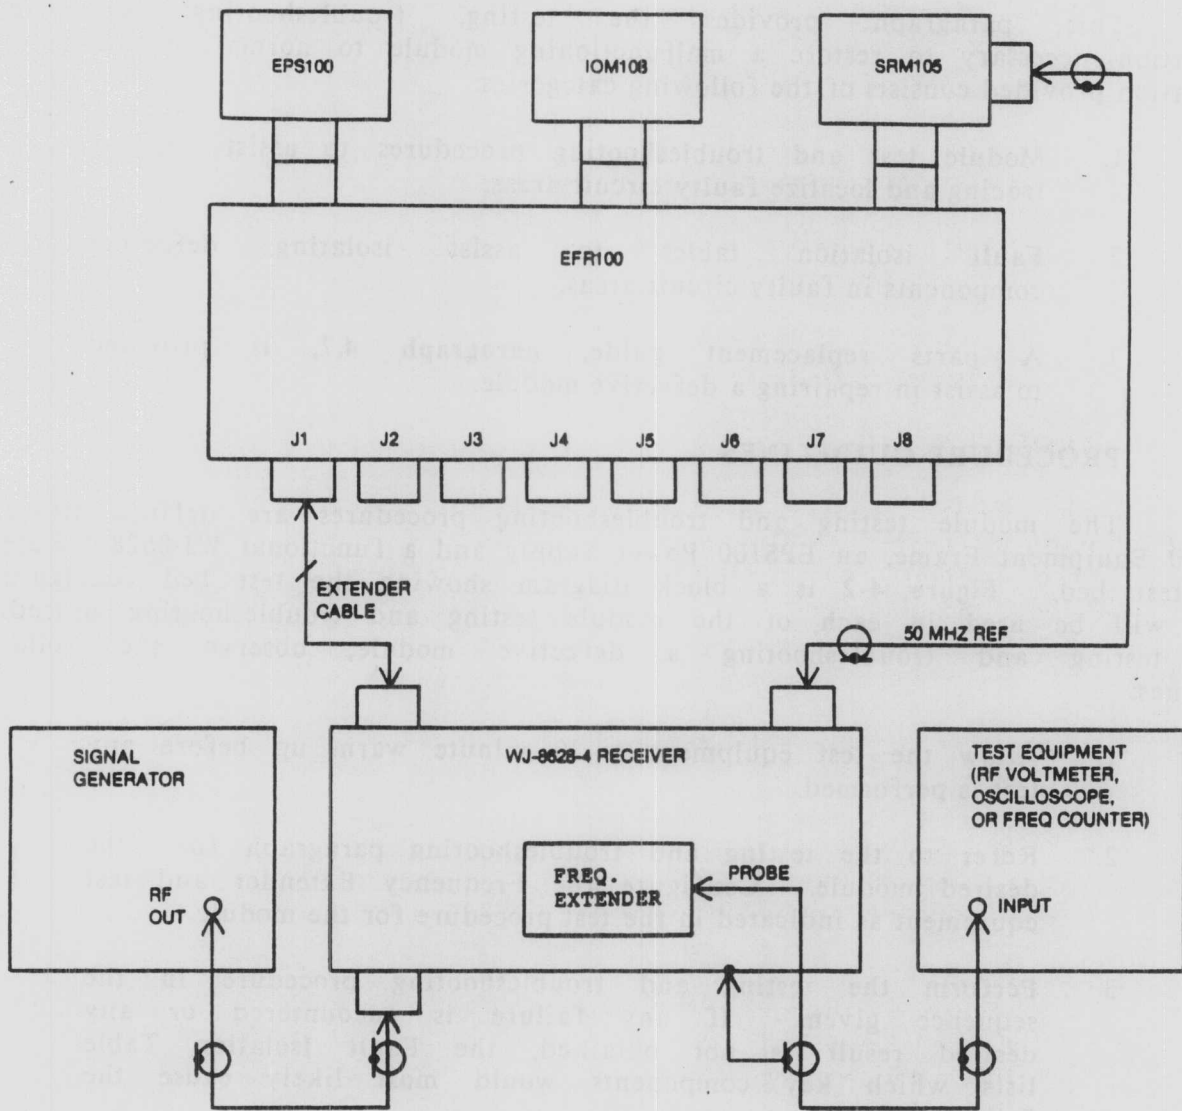

Figure 4-2. Frequency Extender Module Test Bed Configuration
3. Connect test equipment to the Frequency Extender as shown in Figure 4-2.
The module testing and troubleshooting procedures are defined using an EFR100 Equipment Frame, an EPS100 Power Supply and a functional WJ-8628-4 Receiver as a test bed. Figure 4-2 is a block diagram showing the test bed configuration which will be used in each of the module testing and troubleshooting procedures. When testing and troubleshooting a defective module, observe the following guidelines: